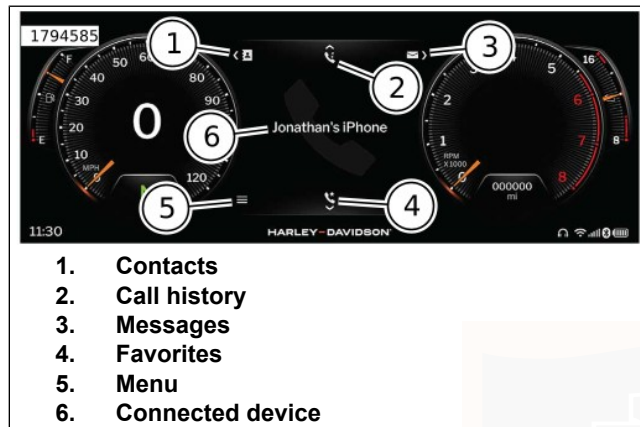

Figure 73. Phone Selections
2. Select one of the phone features. See Figure 73.
2. See Figure 73. Select contacts (1) or call history (2) to find contact number.
See Figure 73. To access messages select Message Icon(3).